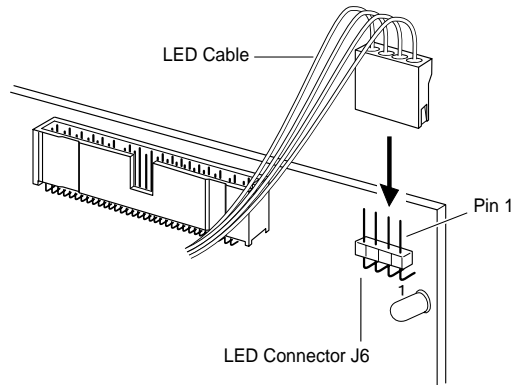

Figure 5-12. SCSI LED Connector
- 2 Connect the LED cable to the SCSI activity LED connector on the AHA-398x, as shown in Figure 5-12.
If the computer has a two-position LED cable, connect it to pins 1 and 2 of the LED connector (pin 1 is the pin nearest the edge of the board, as shown in Figure 5-12).